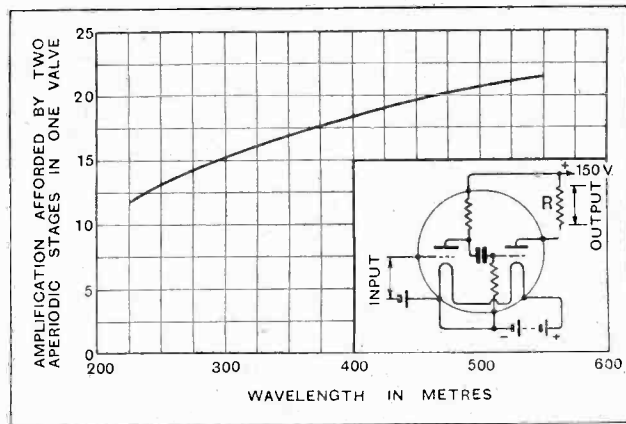

Fig. 4.—Measured amplification of multiple valve at various wavelengths. The resistance R is 22,000 ohms.
HAVING prepared the formers for the two sets of intervalve couplings—the slots can best be turned in a lathe, but it is not too laborious a task to cut them with a saw and ward file—the process of winding may be started. Here, again, some form of mechanical winder is of advantage, but by no means essential. It is best to begin with the secondaries; for the medium-wave coil (left-hand section of Fig. 4 (C)) a total of 60 turns, disposed in 6 sections of 10 turns each of No. 26 D.C.C. wire will be required. It will be realised that the wire cannot be led straight from the end of one section to the beginning of the other as it would interfere with the interwound primary. This difficulty is overcome by placing a strip of thin insulating material measuring approximately 1 in. by $\frac{1}{2}$ in. between two adjacent ribs in such a way that it rests against the tubular body of the former; when the end of a section is reached, instead of passing directly to the next, the wire is guided under this strip, and, in consequence, the space immediately between the "pancake" coils is kept clear.
covered wire is also used—not D.C.C. as stated in the first instalment. It should also be stated that the foot of the H.F. transformer mounting bracket is turned inwards and not outwards as shown in Fig. 4. The low-potential end of the medium-wave winding and the high-potential end of the long-wave section are joined together and to the tag marked *y*.
With these figures available it is possible to calculate the amplification that should be attained by each of the stages in the double valve, using an external anode resistance of 22,000 ohms for the second valve, and ignoring the effects of inter-electrode and stray capacities in lowering the amplification. On this basis the amplification of each stage should be 5.5 times, giving $(5.5)^2$ or about 30 times as the overall amplification of the two stages. For comparison with this the amplification actually attained at various wavelengths within the broadcast range was measured, the results obtained being plotted against wavelength in Fig. 4. It will at once be seen that the amplification achieved varies between 10 and 21 times over the range investigated—results which are extremely good for resistance amplification at the wavelengths mentioned.
In an amplifier in which tuned couplings are used throughout it is inevitable that the amplification attained should be greater at the lower end of the tuning range than at the upper. It will be seen from Fig. 4 that with the resistance-coupled stages of the multiple valve the opposite effect is experienced, the amplification rising as the wavelength is increased. It will therefore be clear that by a judicious combination of tuned and aperiodic couplings it should be possible